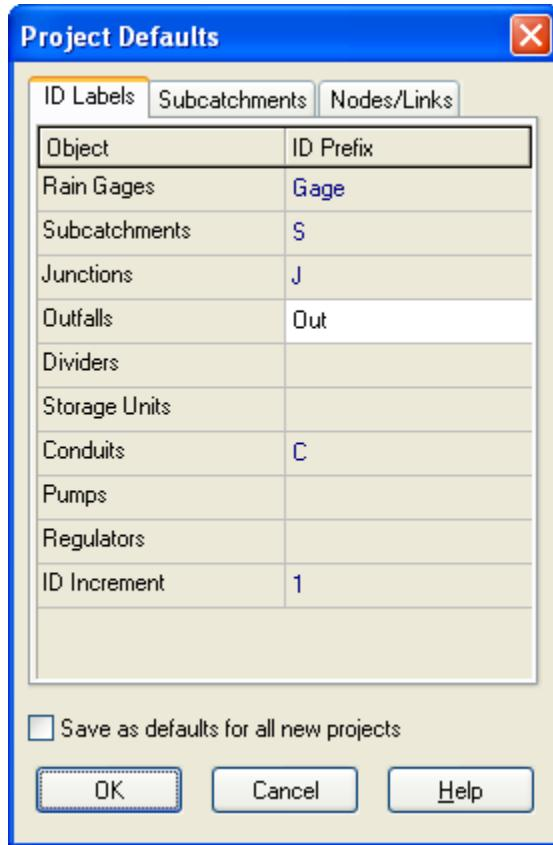

Figure 2-2. Default ID labeling for tutorial example.
4. On the ID Labels page of the dialog, set the ID Prefixes as shown in Figure 2-2. This will make SWMM automatically label new objects with consecutive numbers following the designated prefix.